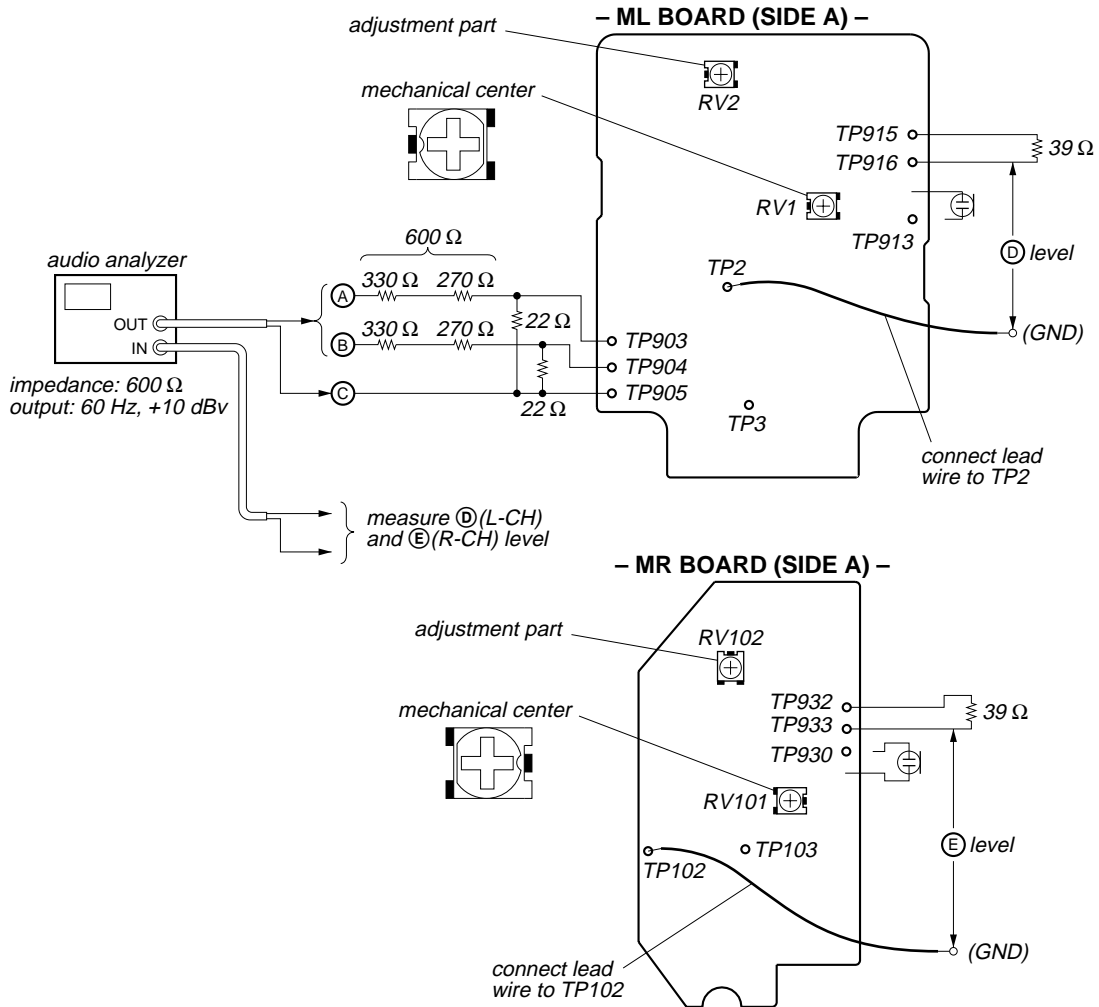

Figure 2
2. Connect an audio analyzer (impedance: 600 Ω) to (A) and (C) in figure 2.
5. Adjust RV2 so that (D) level in figure 2 (between TP2 and TP916) is $-21 \text{ dBv} \pm 0.2 \text{ dB}$ (former type) or $-16 \text{ dBv} \pm 0.2 \text{ dB}$ (new type).
6. Connect an audio analyzer (impedance: 600 Ω) to (B) and (C) in figure 2.
9. Adjust RV102 so that the (E) level in figure 2 (between TP102 and TP933) is $-21 \text{ dBv} \pm 0.2 \text{ dB}$ (former type) or $-16 \text{ dBv} \pm 0.2 \text{ dB}$ (new type).